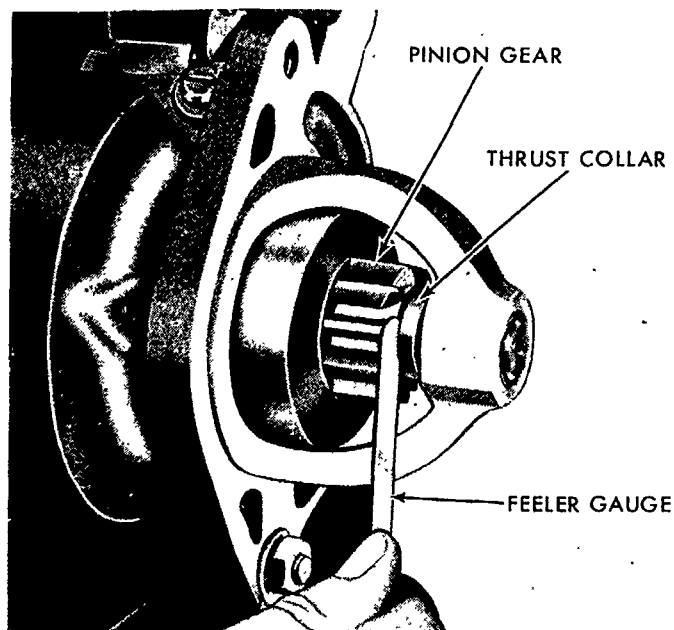

Figure 49
- a. Insert a feeler gauge of the proper thickness between the pinion gear and thrust collar, Figure 49.